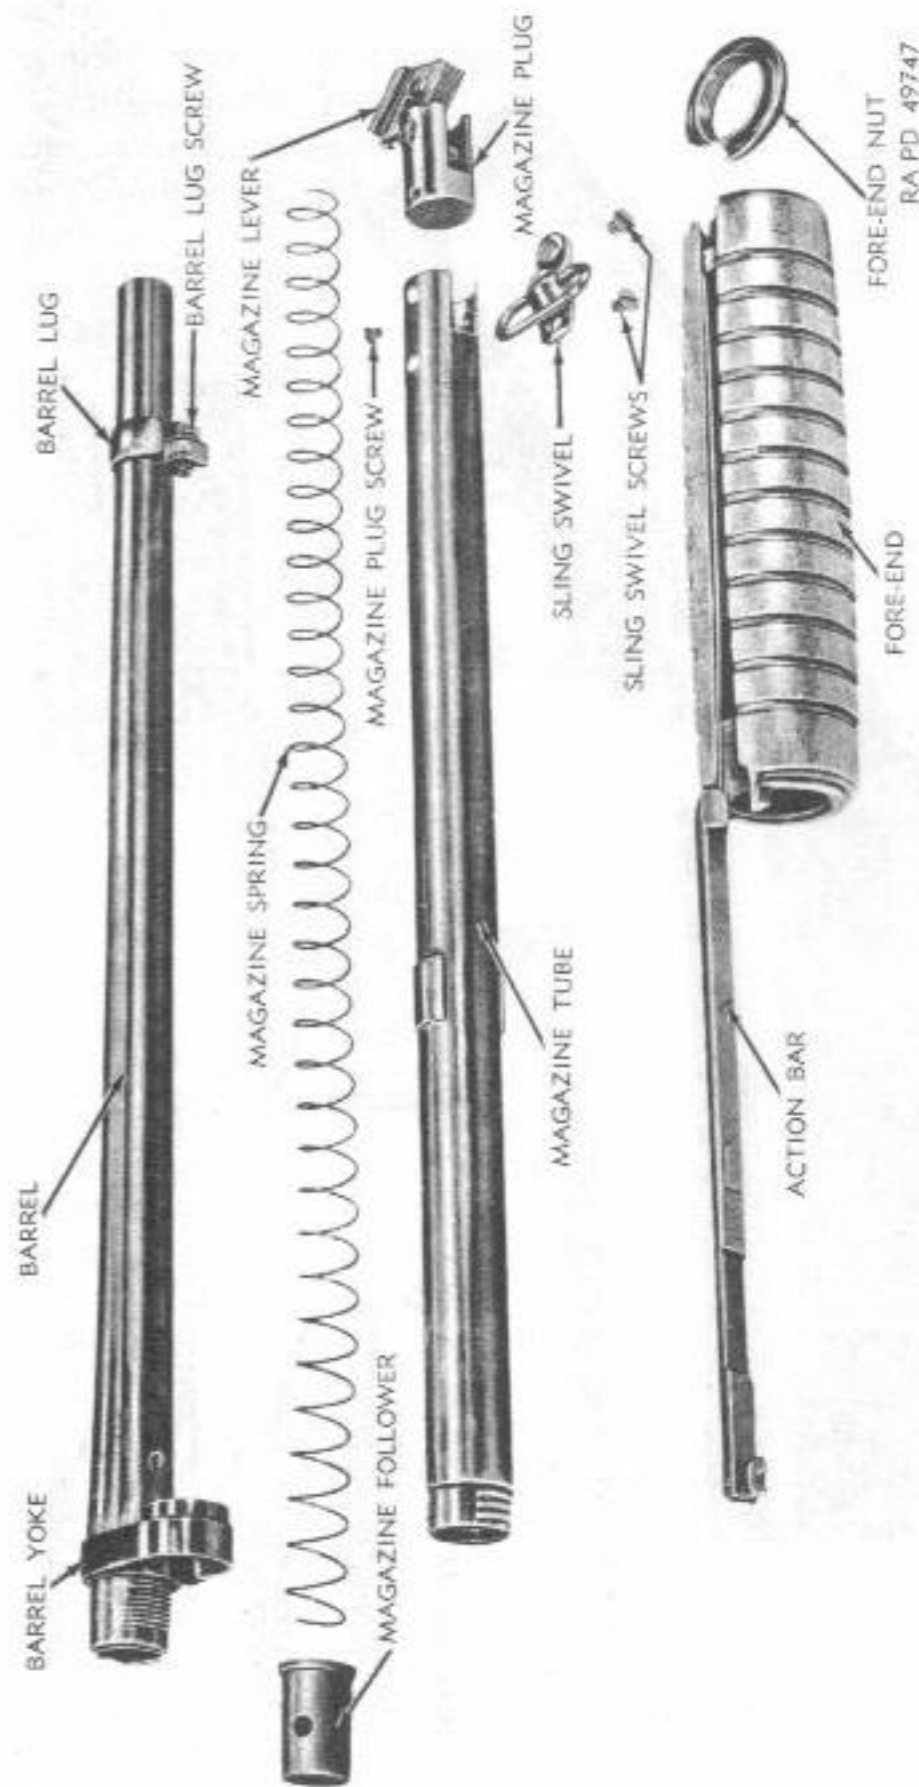
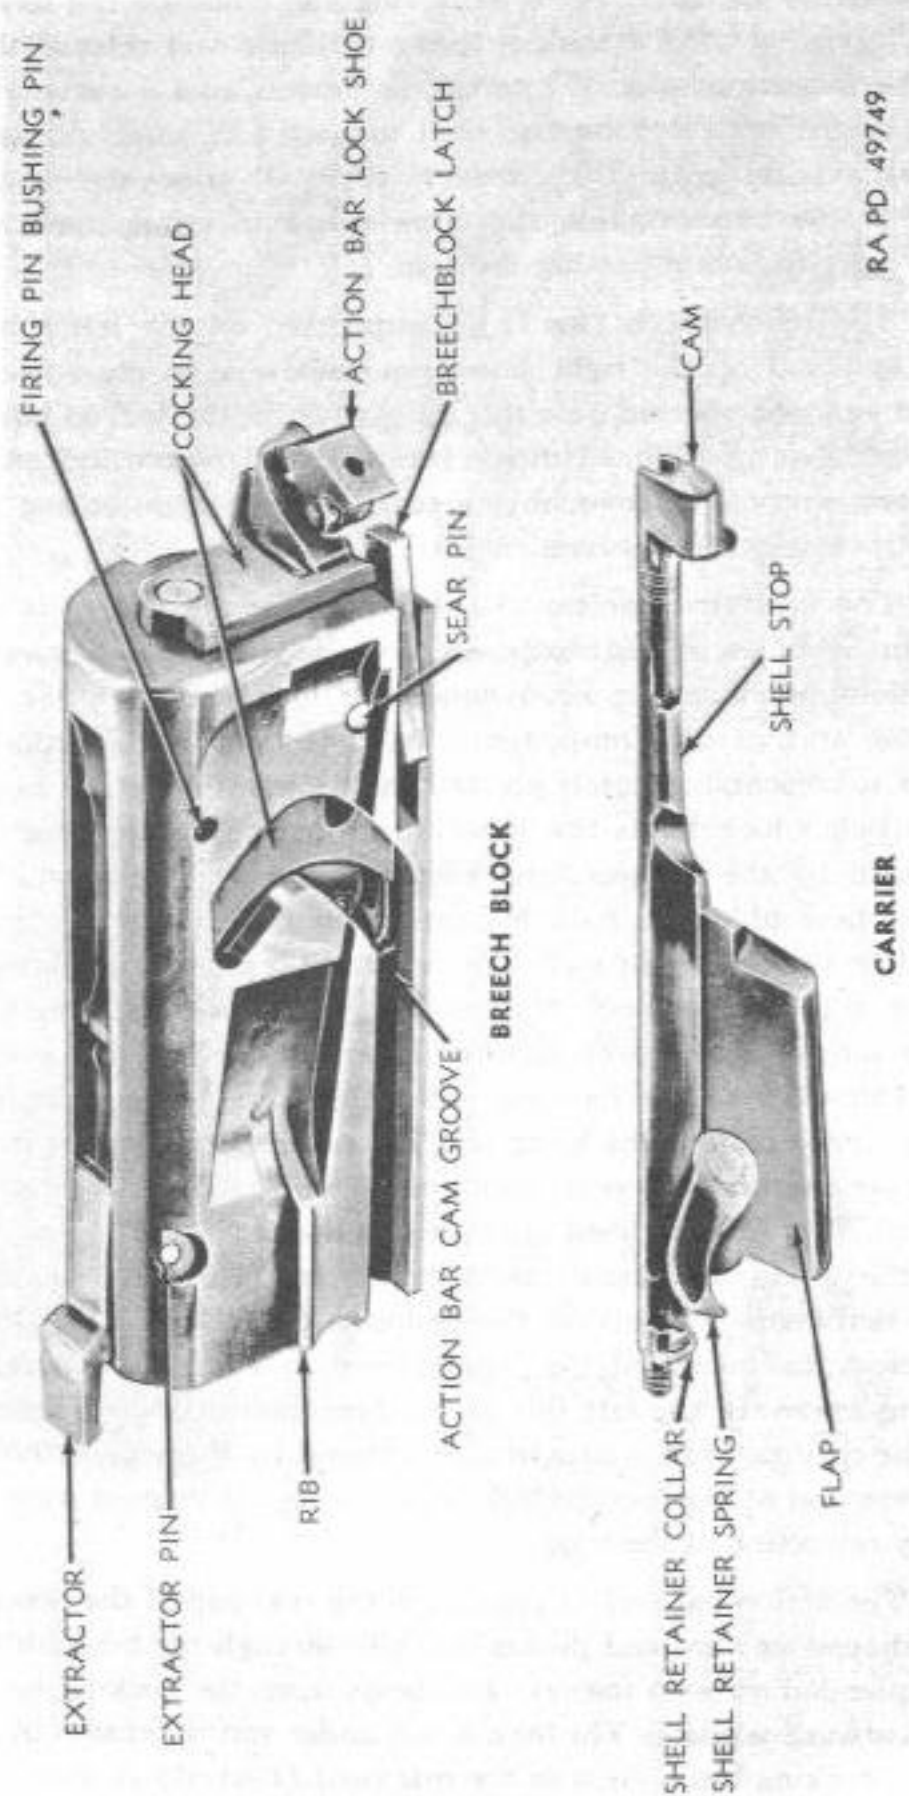

Figure 69—Barrel, Magazine and Action Bar Group—Disassembled View—
Figure 71—Breechblock and Carrier Groups—Rear, Top and Left Side View—Showing Location of Parts—Remington Shotgun M10
(2) The sporting-type gun is furnished with a 30-inch barrel, bored full choke, and is without bayonet attachment or sling.
(3) The M10 is no longer made by Remington, but a number are still in use in the field.
d. General Description (figs. 69, 70, 77, and 78).
(1) The stock of the gun is fitted to the rear end of the receiver and bolted to the trigger guard tang, and the barrel and magazine locked to the forward end of the receiver as already explained in paragraph b above. The fore end and action bar group is mounted and operates on the magazine tube. The rear end of the action bar passes through the forward end of the receiver and engages with, reciprocates, and cam-operates the breechblock, which in turn engages with and cam-operates the carrier.
(2) The magazine which is of the tubular type is positioned beneath the barrel and has a capacity of five shells loaded end to end. The shells are pressed together and fed into the receiver by the force of the magazine spring acting upon the follower. The magazine is locked to the barrel lug by a lever pivoted in a slot in the magazine plug and held in position when locked by a spring-loaded detent. The magazine spring is held in the tube by the magazine plug and follower.
(3) The receiver contains the operating and firing mechanism with the exception of the trigger, and to its rear end is attached the trigger guard in which is mounted the trigger, trigger spring, and safety slide. The receiver is open at the bottom for loading and ejection of shells and at the rear for passage of the breechblock on its rearward movement. The action bar lock button, which is operated to disengage the action bar lock and allow the action bar to be retracted, is positioned in the right wall of the receiver. The carrier stop which supports the rear end of the carrier is seated in a vertical undercut groove in the rear inner right wall of the receiver. The ejector spring is seated in an undercut groove in the top of the receiver and acts to spring the fired shell down out of the receiver when extracted from the chamber by the extractor on the breechblock. The flap of the carrier assists this function as it is cam-rotated down behind the ejected shell.
(4) The forward end of the carrier (fig. 71) is seated in a blind hole in the right forward, inner face of the receiver and held firm by a spiral friction spring also seated in the hole. The rear end of the carrier pivots on a pin seated in a hole in the carrier stop positioned in the right inner wall of the receiver. The rear end of the carrier is formed into a cam lug
(5) The breechblock (fig. 71) is supported on the left side by the action bar, and on the right side by a guideway in the receiver. The forward end is supported on either side, when in the locked position, by a supporting pin positioned in the receiver wall. When locked, the top of the rear end of the breechblock seats in front of a locking shoulder cut in the top of the receiver.
(6) The firing mechanism with exception of the trigger is mounted in the breechblock and is composed of the firing pin, main spring, firing pin bushing, sear, cocking head, action bar lock, and extractor, together with their springs and components. In some guns of late manufacture, there is a breechblock latch pivoted in the lower rear left face of the breechblock which holds the breechblock in the locked position until disengaged by the rearward movement of the cocking head. In other guns the breechblock is held by the action bar only, which in turn is blocked by the action bar lock. The firing pin is housed in a longitudinal aperture in the breechblock, the rear end passing through the firing pin bushing pinned in the breechblock. The mainspring is compressed between a shoulder on the forward end of the firing pin and the firing pin bushing, and functions the firing pin. The cocking head slides in grooves in the rear end of the breechblock and is connected to, and retracts the firing pin. The cocking head is moved to the rear by a lug on the rear end of the action bar, bearing upon its forward face, as the action bar is moved rearward. The action bar unlocks, reciprocates and locks the breechblock by means of the lug referred to above, which seats in a camming groove in the left side of the breechblock. When moved rearward, the cocking head is caught and retained by the sear, also mounted in the rear end of the breechblock until the sear is levered from engagement by retraction of the trigger.
(7) The action bar lock is pivoted in the rear end of the breechblock. The L-shaped forward end passes laterally through the breechblock, and a spring-loaded shoe on the rear end bears upon the cocking head when in the rearward position. The lock is put under spring tension by bearing upon the cocking head when in the rearward (cocked) position, and the right wall of the receiver. When the breechblock is locked in the forward
**40. REMOVAL OF GROUPS (figs. 69, 70 77, and 78).**